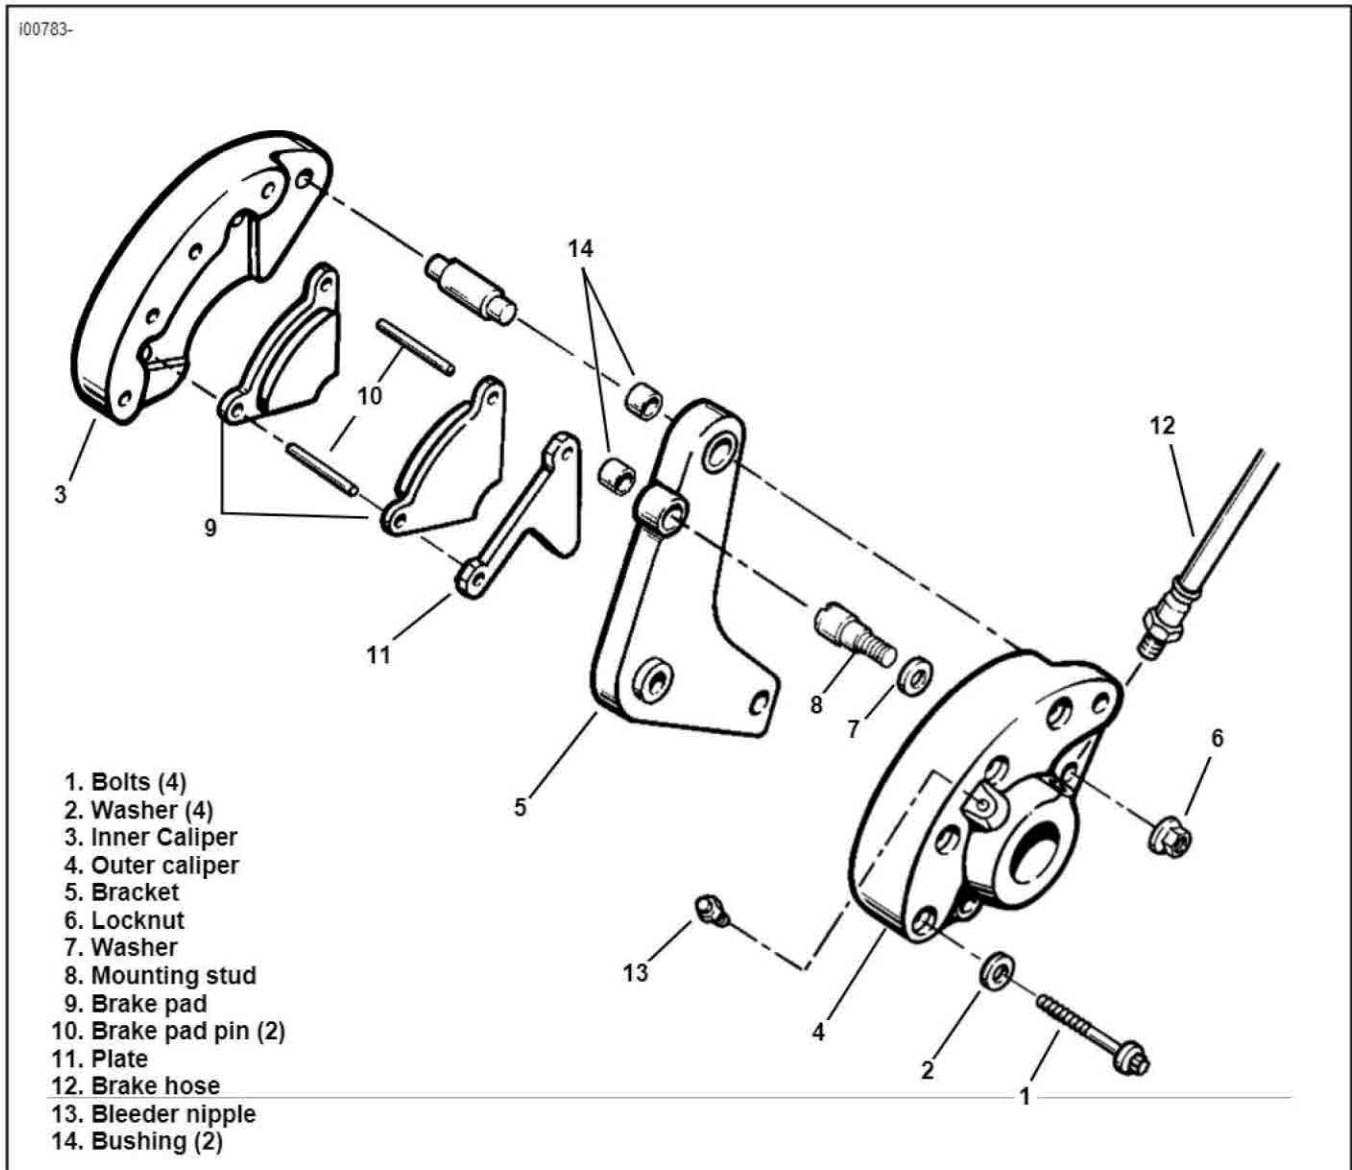

Figure 2. Rear Brake Caliper -- 19781/2 - 1980 FL/FX Models
2. See Figure 2. Install brake hose in outer caliper half. Apply Teflon pipe sealant to fitting threads, and tighten securely.